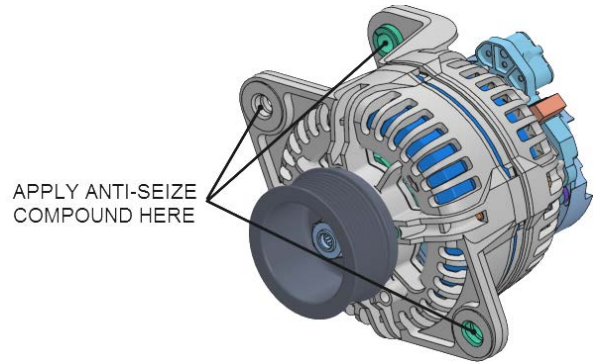
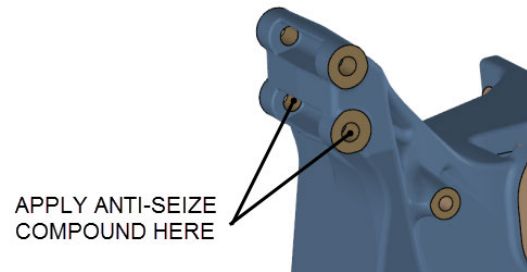

FIGURE 44
FIGURE 45
4. Apply anti-seize compound (Prevost p/n: 680335) inside the alternator mounting ears and inside the sleeves found on the support attached to the engine (see **FIGURE 44** & **FIGURE 45**).